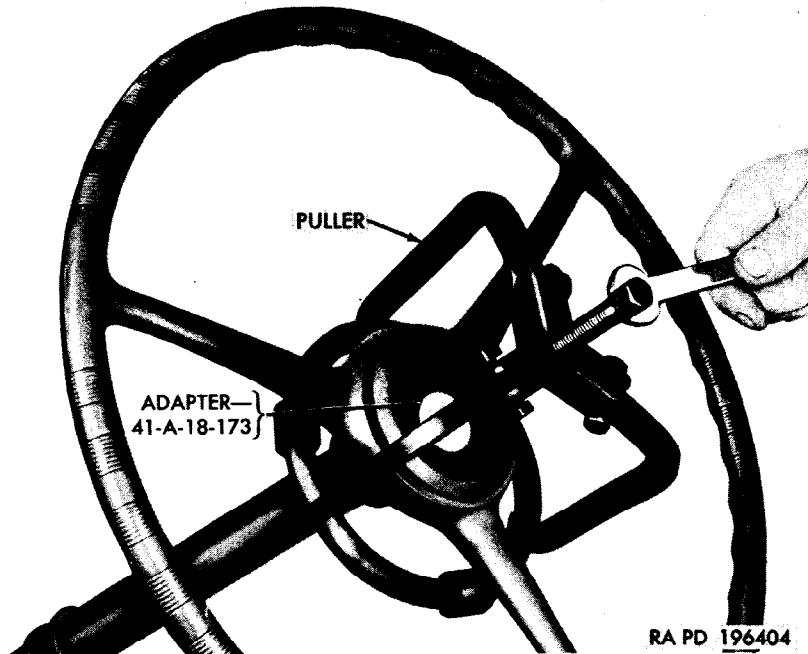

Figure 196. Removing steering wheel.
a. Removal (fig. 196).
- (1) Remove the horn button cable (par. 179b).
- (2) Remove the steering wheel nut and the horn button lower retaining plate.
- (3) Install the adapter 41-A-18-173, and puller 41-P-2954 on the steering wheel as shown in figure 196, with the three rubber pads on the ring bearing against the three wheel spokes and the three puller jaws spaced midway between spokes.
- (4) Tighten the puller screw in against the adapter. If the puller screw is difficult to turn, strike the end of the screw smartly with a medium hammer to dislodge the wheel from the steering shaft.